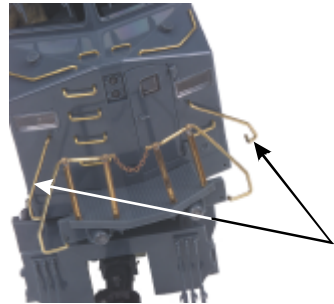

Figure 17: Handrail Separation From Cab
4. Next, remove the handrails from the pilot area as seen in Figure 17.